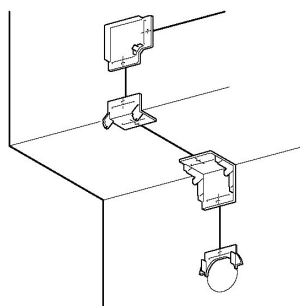

Figure-3
(3) Mounting the bottoms of joint members
Align the bottoms of the joints used in the route of the SLIMDUCT MD with the center line marked in (2) and fasten them with screws as shown in Figure-3.